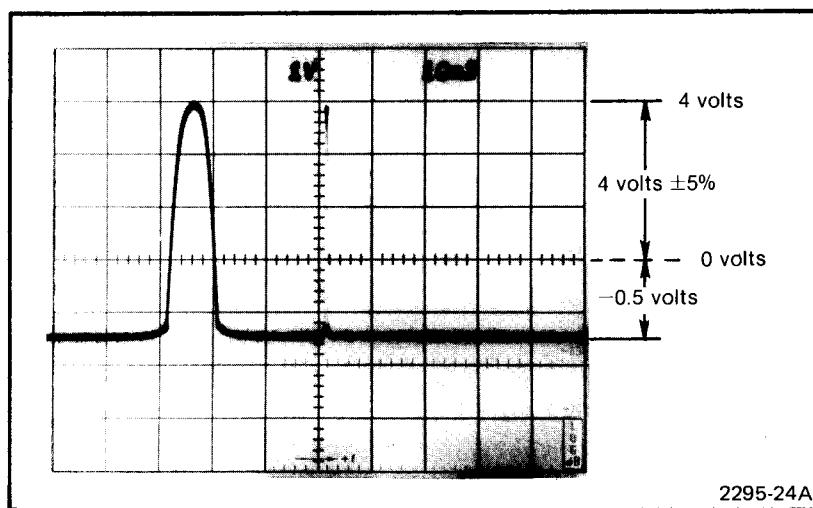

Fig. 4-16. Video Output Test Waveshape.
c. Check the amplitude of the video output signal using the test oscilloscope. Note the dc zero volt level. Video amplitude should equal  $4.0\text{ volts} \pm 0.2\text{ volt}$  as measured from the zero voltage reference level. See Fig. 4-16.